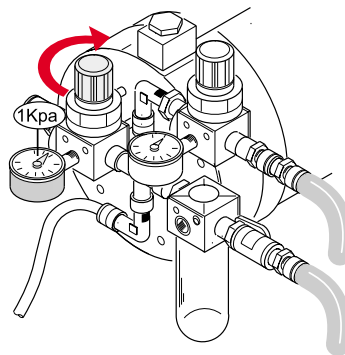

Fig.30
- 7) Rotate the pressure regulator ring nut in a clockwise direction until the pressure gauge reaches 1 Kpa (fig. 30). At this point the pump starts to operate and the air inside the circuit is eliminated from the discharge pipe.